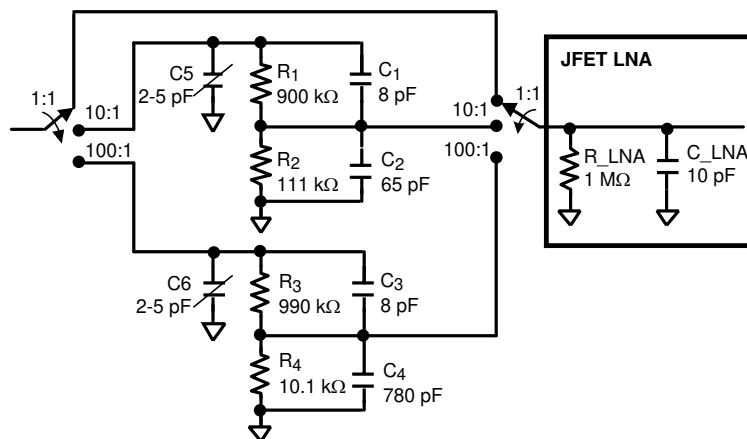

Figure 7-12. Front-End Attenuator for JFET LNA Implementation
- Low noise ($< 0.98 \text{ nV}/\sqrt{\text{Hz}}$) to reduce the impact on the LMH6518 noise figure. Be aware that Figure 7-1 does not show the necessary capacitors across the resistors in the front-end attenuators (see Figure 7-12). These capacitors provide frequency response compensation and limit the noise contribution from the resistors so that the resistors do not impact the signal path noise. For more information about front-end attenuator design, including frequency compensation, see Section 8.2.1 for additional resources.
Figure 7-12 shows a front-end attenuator designed to work with Figure 7-11.